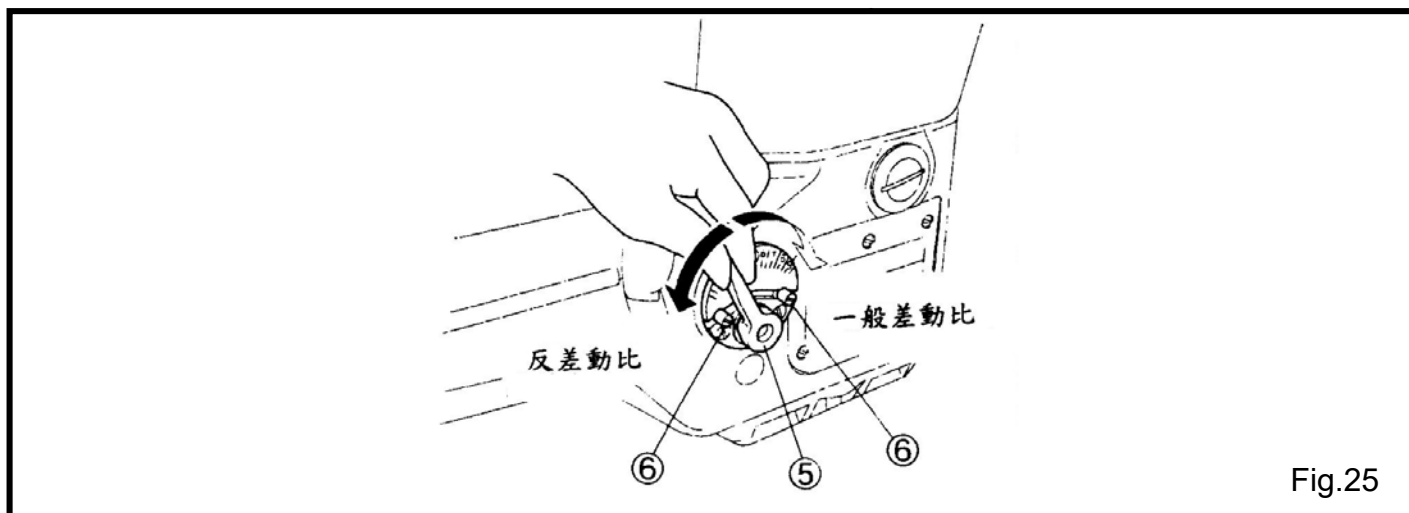

Fig.25
- (1) 移動調整桿向右或左去調整差動桿⑤在刻度“4”和刻度“5”之間是相同的動作和差動。即主牙和差動牙的運作相同。(Fig.25)
- (2) 螺絲⑥是用來固定調整桿⑤和保持差動的多或少。
- 一般差動比：調整桿⑤調到刻度“9”的位置。
- 反差動比：調整桿⑤調到刻度“1”的位置。
- (1) Move the differential feed operating lever⑤ right or left to adjust differential feed dog. The lever⑤ between the graduations “4” and “5” makes the equal movement of the main and the differential feed dogs. (Fig.25)
- (2) The screw⑥ is for fixing the lever⑤ and keeping the differential movement adjusted.
- To make normal differential, move the lever⑤ to “9”.
- To make reverse differential, move the lever⑤ to “1”.